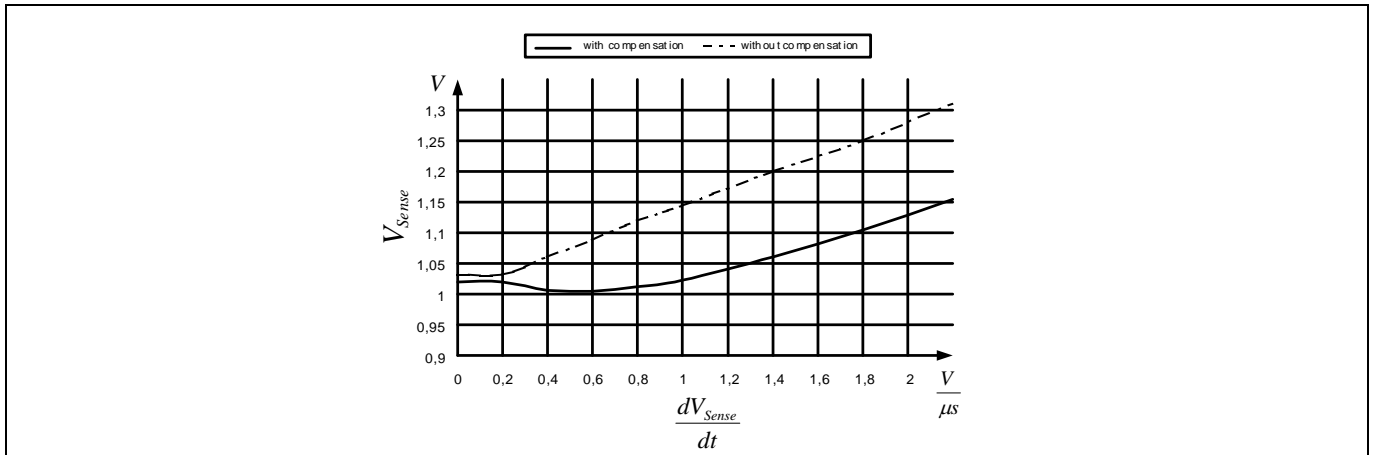

Figure 12 Overcurrent Shutdown
E.g. $I_{peak} = 0.5 \text{ A}$ with $R_{Sense} = 2 \Omega$. Without Propagation Delay Compensation the current sense threshold is set to a static voltage level $V_{csth} = 1 \text{ V}$. A current ramp of $dI/dt = 0.4 \text{ A}/\mu\text{s}$, that means $dV_{Sense}/dt = 0.8 \text{ V}/\mu\text{s}$, and a propagation delay time of i.e. $t_{Propagation Delay} = 180 \text{ ns}$ leads then to an I_{peak} overshoot of 14.4%. By means of propagation delay compensation the overshoot is only about 2% (see Figure 12).